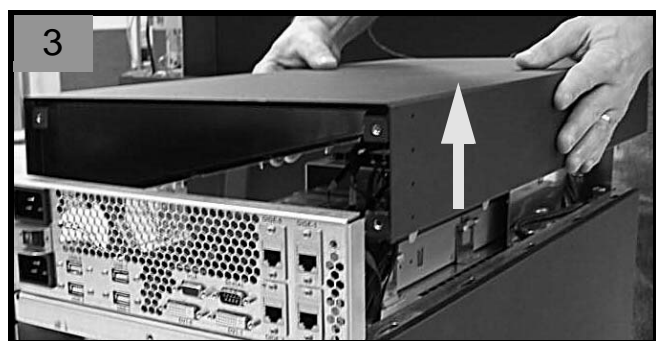

Figure 1-15 Removing the Top Cover
3. Access the top of the enclosure (refer to Figure 1-15 on page 42):